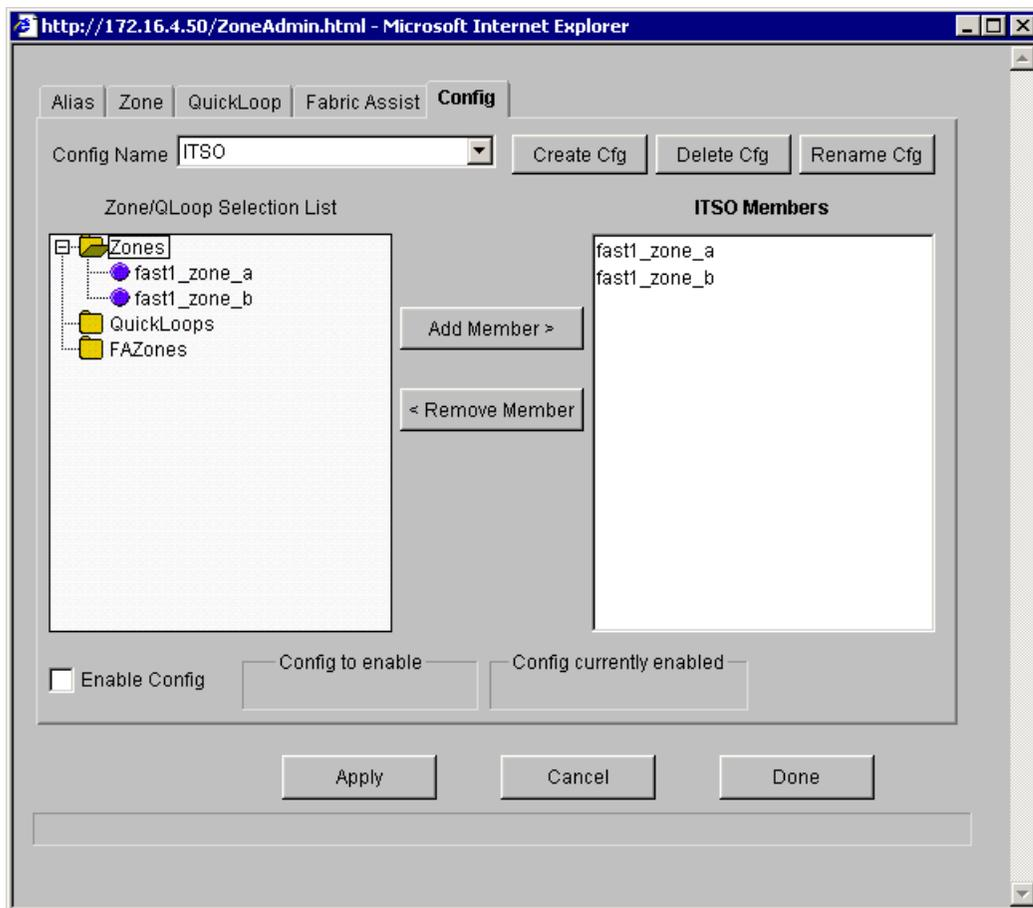

Figure 4-17 Zone configuration
4. Highlight a zone in the left pane and click **Add member** to add it to the configuration. Repeat for all member zones. An example of our SAN configuration is shown in Figure 4-17: